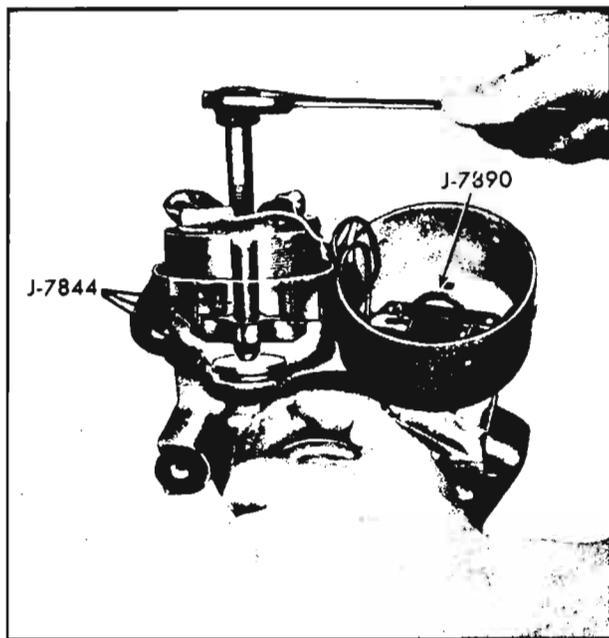

Fig. 8-152—Removing Field Coil with Tool J-7844
- c. Install field puller tool J-7844 as shown in Figure 8-152 and remove field.